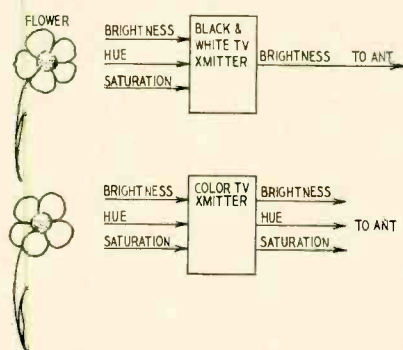

Fig. 4—Arrangement shows basic difference in monochrome and color TV systems.
3. *Hue* and *saturation* information is contained in the *color* signal, transmitted on the color subcarrier. (See Fig. 4.)